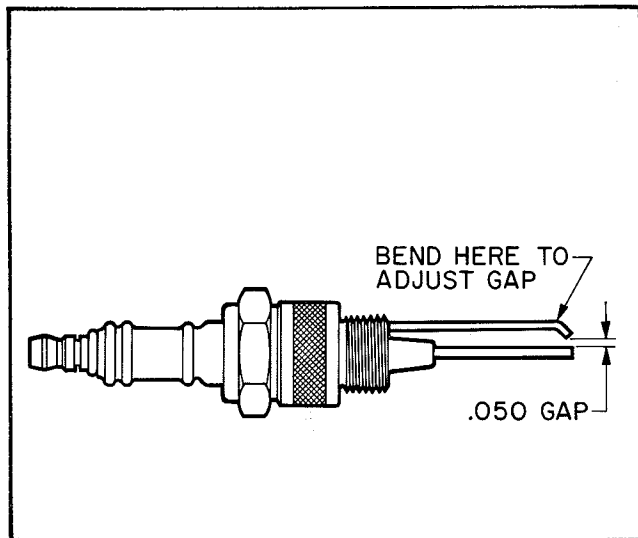

Figure 6. Spark Plug Gap Setting
2. Remove the spark plug from the burner head, and check the gap between the electrodes. The gap must be within the limits shown in Figure 6.
3. Adjust the gap by bending the outside electrode where shown in figure 6. If you do not install the plug immediately, protect it from damage until it is re-installed.